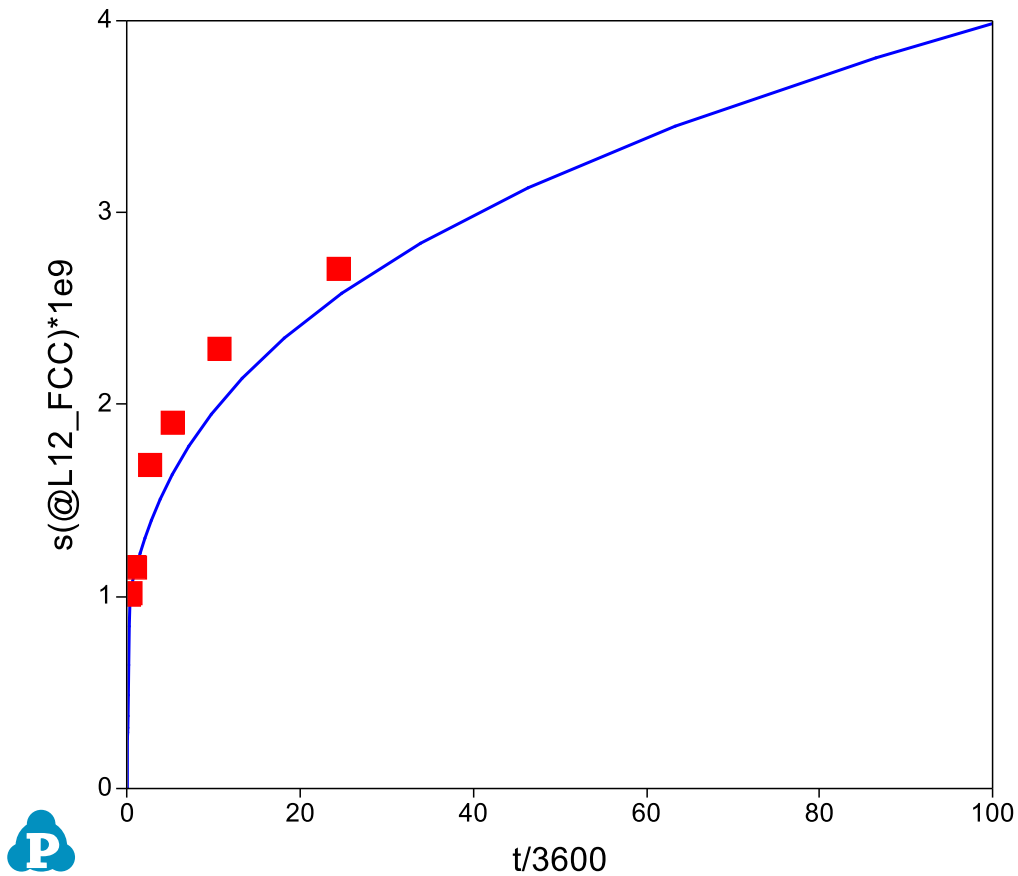

Figure 3.1.7: Plot of size evolution with experimental data
- Open the Size graph, single click the Ni-14Al_Exp table and drag in the t(hr) as x-axis, press Ctrl and drag in the radius(nm) as y-axis. In the Property window set the Plot Type as Point, the plot with experimental data point is shown in Figure 3.1.7;